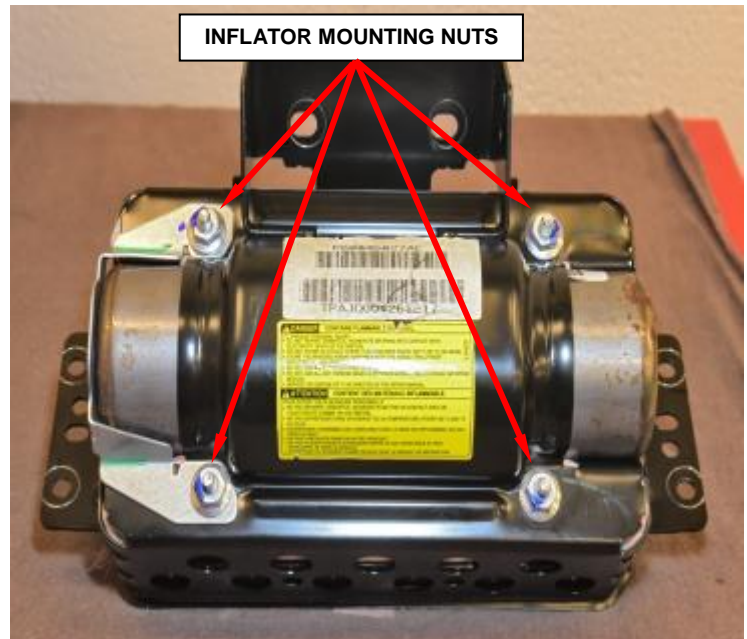

Figure 64 – Mounting Nuts
- b. Remove and **discard** the four inflator mounting nuts (Figure 64).
- g. Install the four **NEW** mounting nuts to the airbag housing and tighten to 62 in. lbs. (7 N·m) (Figure 64).